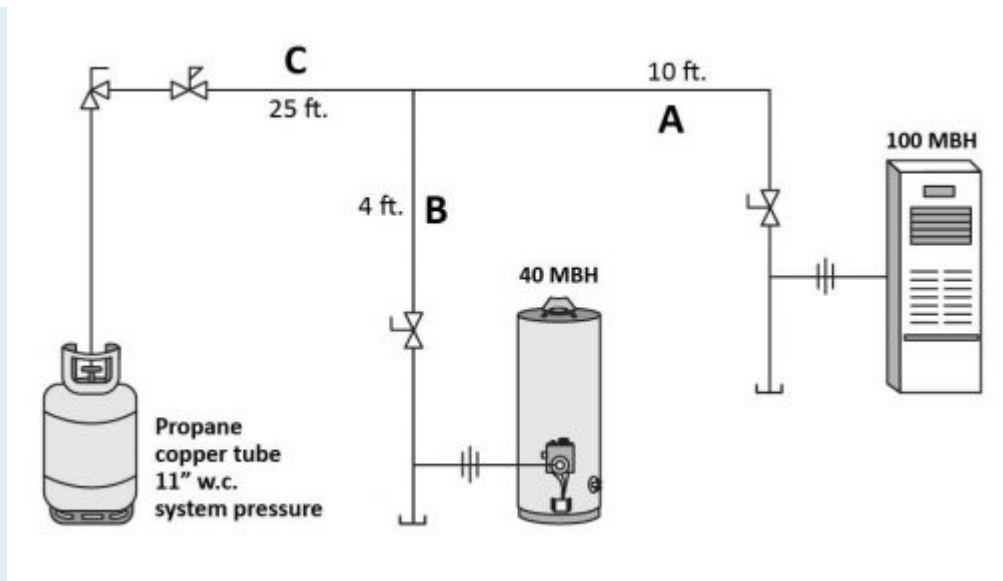

Figure 5
2. Size the drawing in Figure 5 and show all calculations.
- Figure 5 by Camosun College is licensed under a CC BY 4.0 licence.